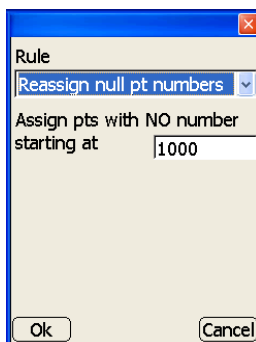

Figure 3-98. Add Export Rule
- Add – on the *Export rules* tab, press **Add** to add an export rule and it's respective information, then press **Ok** to save the information (Figure 3-98).
- Edit – on the *Export rules* tab, press **Edit** to edit the selected export rule. See the “Add” bullet and Figure 3-98 for details.